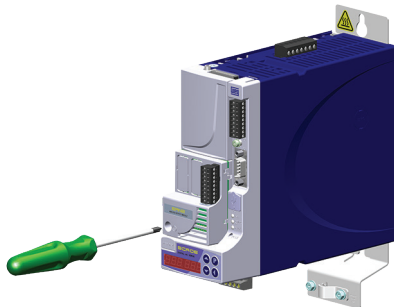

Figure 4.3: Fastening of the accessory grounding screw
4. Fasten the grounding screw of the accessory to the servo drive, as shown in Figure 4.3 on page 9.